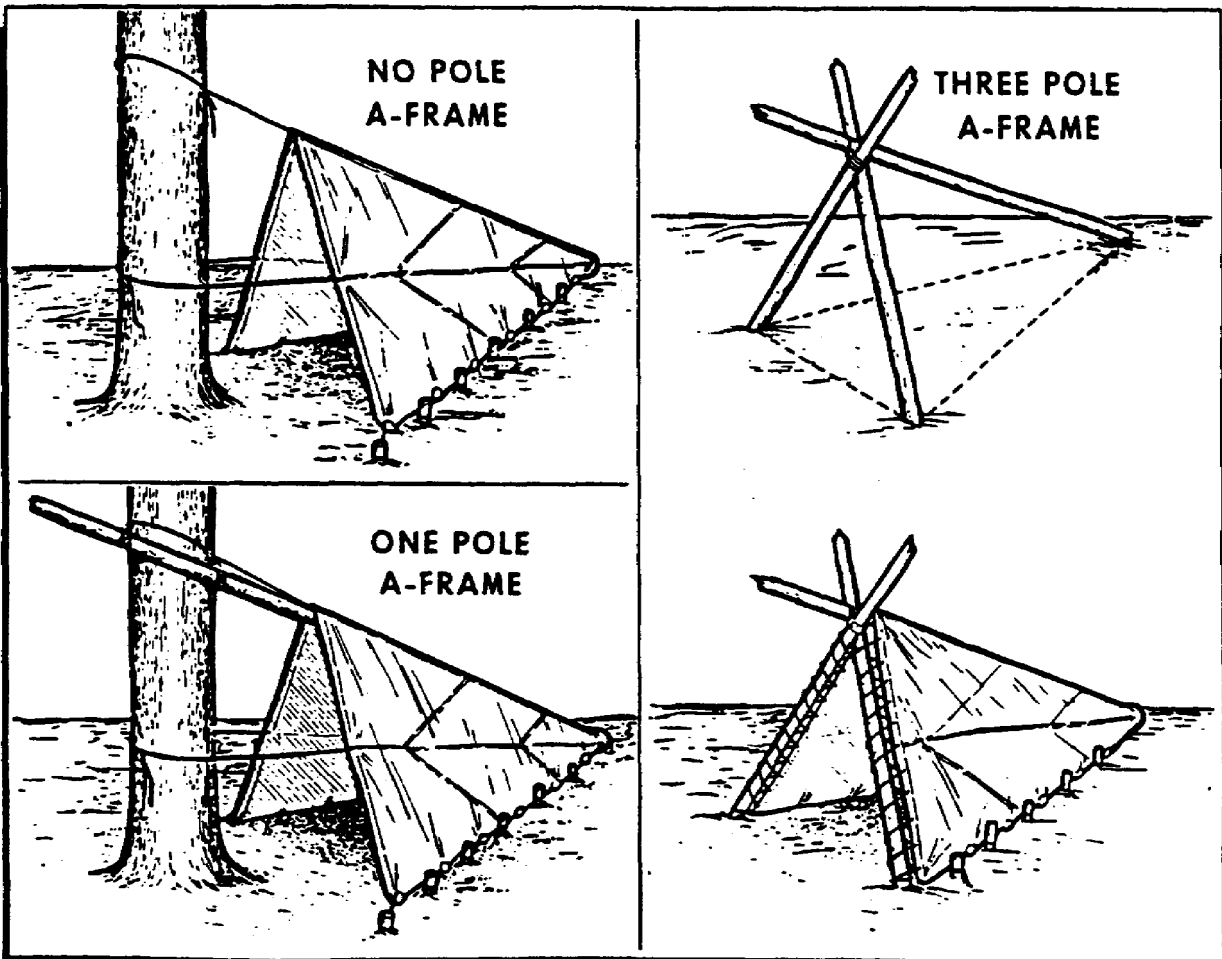

Figure 20. A-frame shelters.
a. A-frame. The A-frame design is adaptable to all environments and is easily modified (Figure 20). There are as many variations of this shelter as there are builders. Types include the tropical para-hammock, temperate area "A-frame," arctic thermal "A-frame," and fighter trench. One way to build an A-frame shelter in a warm temperature environment is to use fabric material for the covering. The procedures in Figure 21, if followed carefully, result in completing a safe shelter that meets your needs.